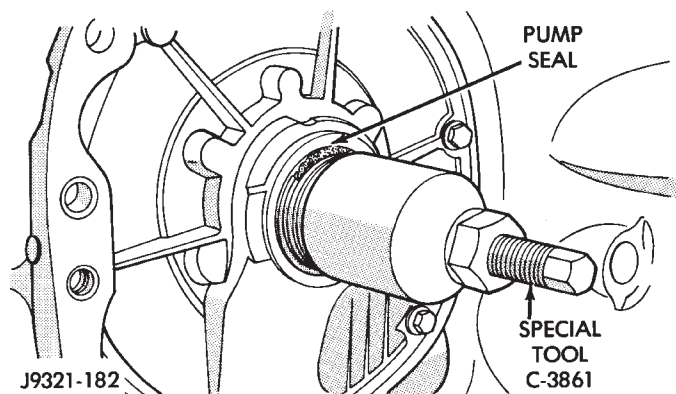

Fig. 8 Removing Pump Oil Seal—46RH
(11) Remove pump oil seal with Special Tool C-3861 (Fig. 8). Be sure to tighten tool threads completely into seal before using puller bolt to withdraw seal.